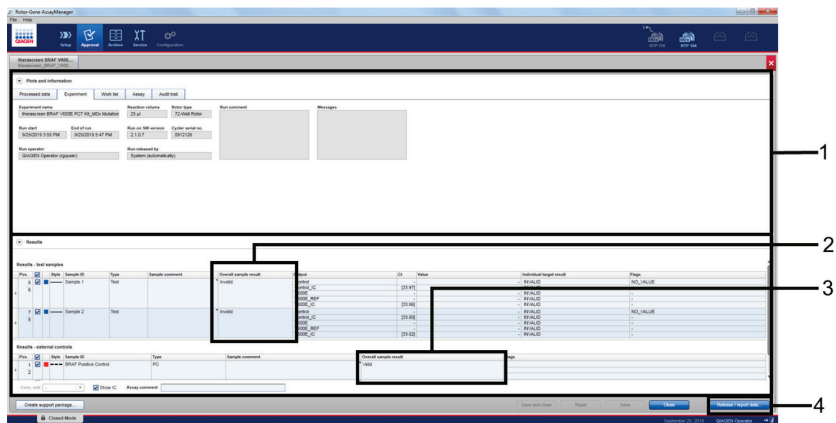

Figure 24. “Assay results” window. 1 = “Plots and information” section. 2 = “Results” section. 3 = “Overall sample results” section. 4 = “Release/Report data”.
10. Click “Release/report data” to open the “Release/report data” window (Figure 24).